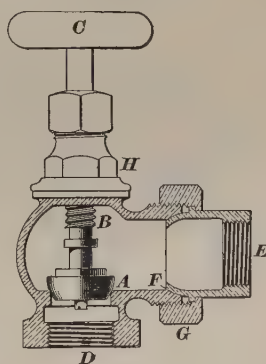

FIG. 7
27. Stop-Valve.—In Fig. 7 is illustrated the stop-valve used in connection with the Gold system of train heating. It is an ordinary hard-seat valve, and needs but little description. By means of this stop-valve, the engineer can shut the steam off altogether from the train when not being heated.
The regulator is opened by turning the handle J from right to left, and when opened to the proper amount, it can be secured in that position by the device N . The regulator must not be used as a stop-valve; that is, for the purpose of shutting off the steam from the train entirely. The angle valve shown in Fig. 7 is provided for that purpose. The regulator is intended for the purpose of reducing the boiler pressure to the proper pressure required in the train, and this is done by turning the handle J until the pressure on the outlet side B' is of the proper amount, as shown on the gauge provided for that purpose. If more pressure is required on the train, the handle J must be screwed farther down; that is, turned from right to left. If less steam pressure is required, the handle should be turned in the opposite direction, namely, from left to right; when the proper position is reached, lock it there by means of N .
The valve stem C may be withdrawn occasionally for inspection and cleaning. To do this, ease the pressure of the spring F by turning the handle J from left to right, take out the bottom plug O , and then withdraw the stem. See that the spring f is clean and working properly on the stem, and also that the recess in O is clean. By taking off the nuts P , the dome H may be removed and the parts inspected, attention being paid to the recess r . In case any part of this valve becomes disabled so that the steam from the boiler will not pass into the train pipe, take off bottom plug O , as already described, take out valve stem C , replace plug O and regulate the pressure by the stop-valve shown in Fig. 7.